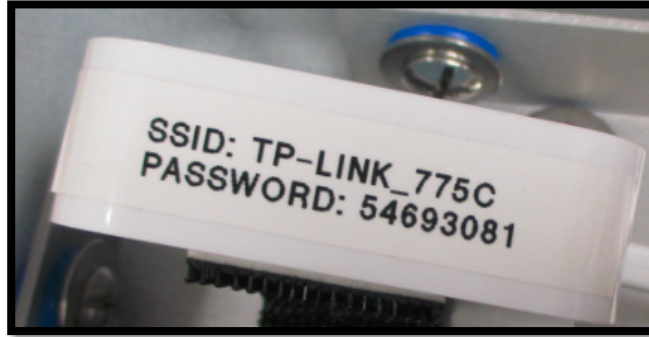

Figure 47: Router SSID and Password Location
1. Using a phone, tablet, or laptop, connect to the router using the SSID and password on the router. (Figure 47)
2. Connect to the wireless SSID network listed on the router sticker. Enter the TP-Link wireless router (example: **TP-LINK-775C**) as shown in Figure 47.
4. Enter the wireless password printed on the router sticker. (Figure 47) Every router has a different, unique SSID number, and wireless password.
2. Connect to the wireless SSID network listed on the router sticker. (Figure 47)
4. The *Enter Password* screen appears. (Figure 61) In the Password field, enter the wireless password on the router sticker. (Figure 47)